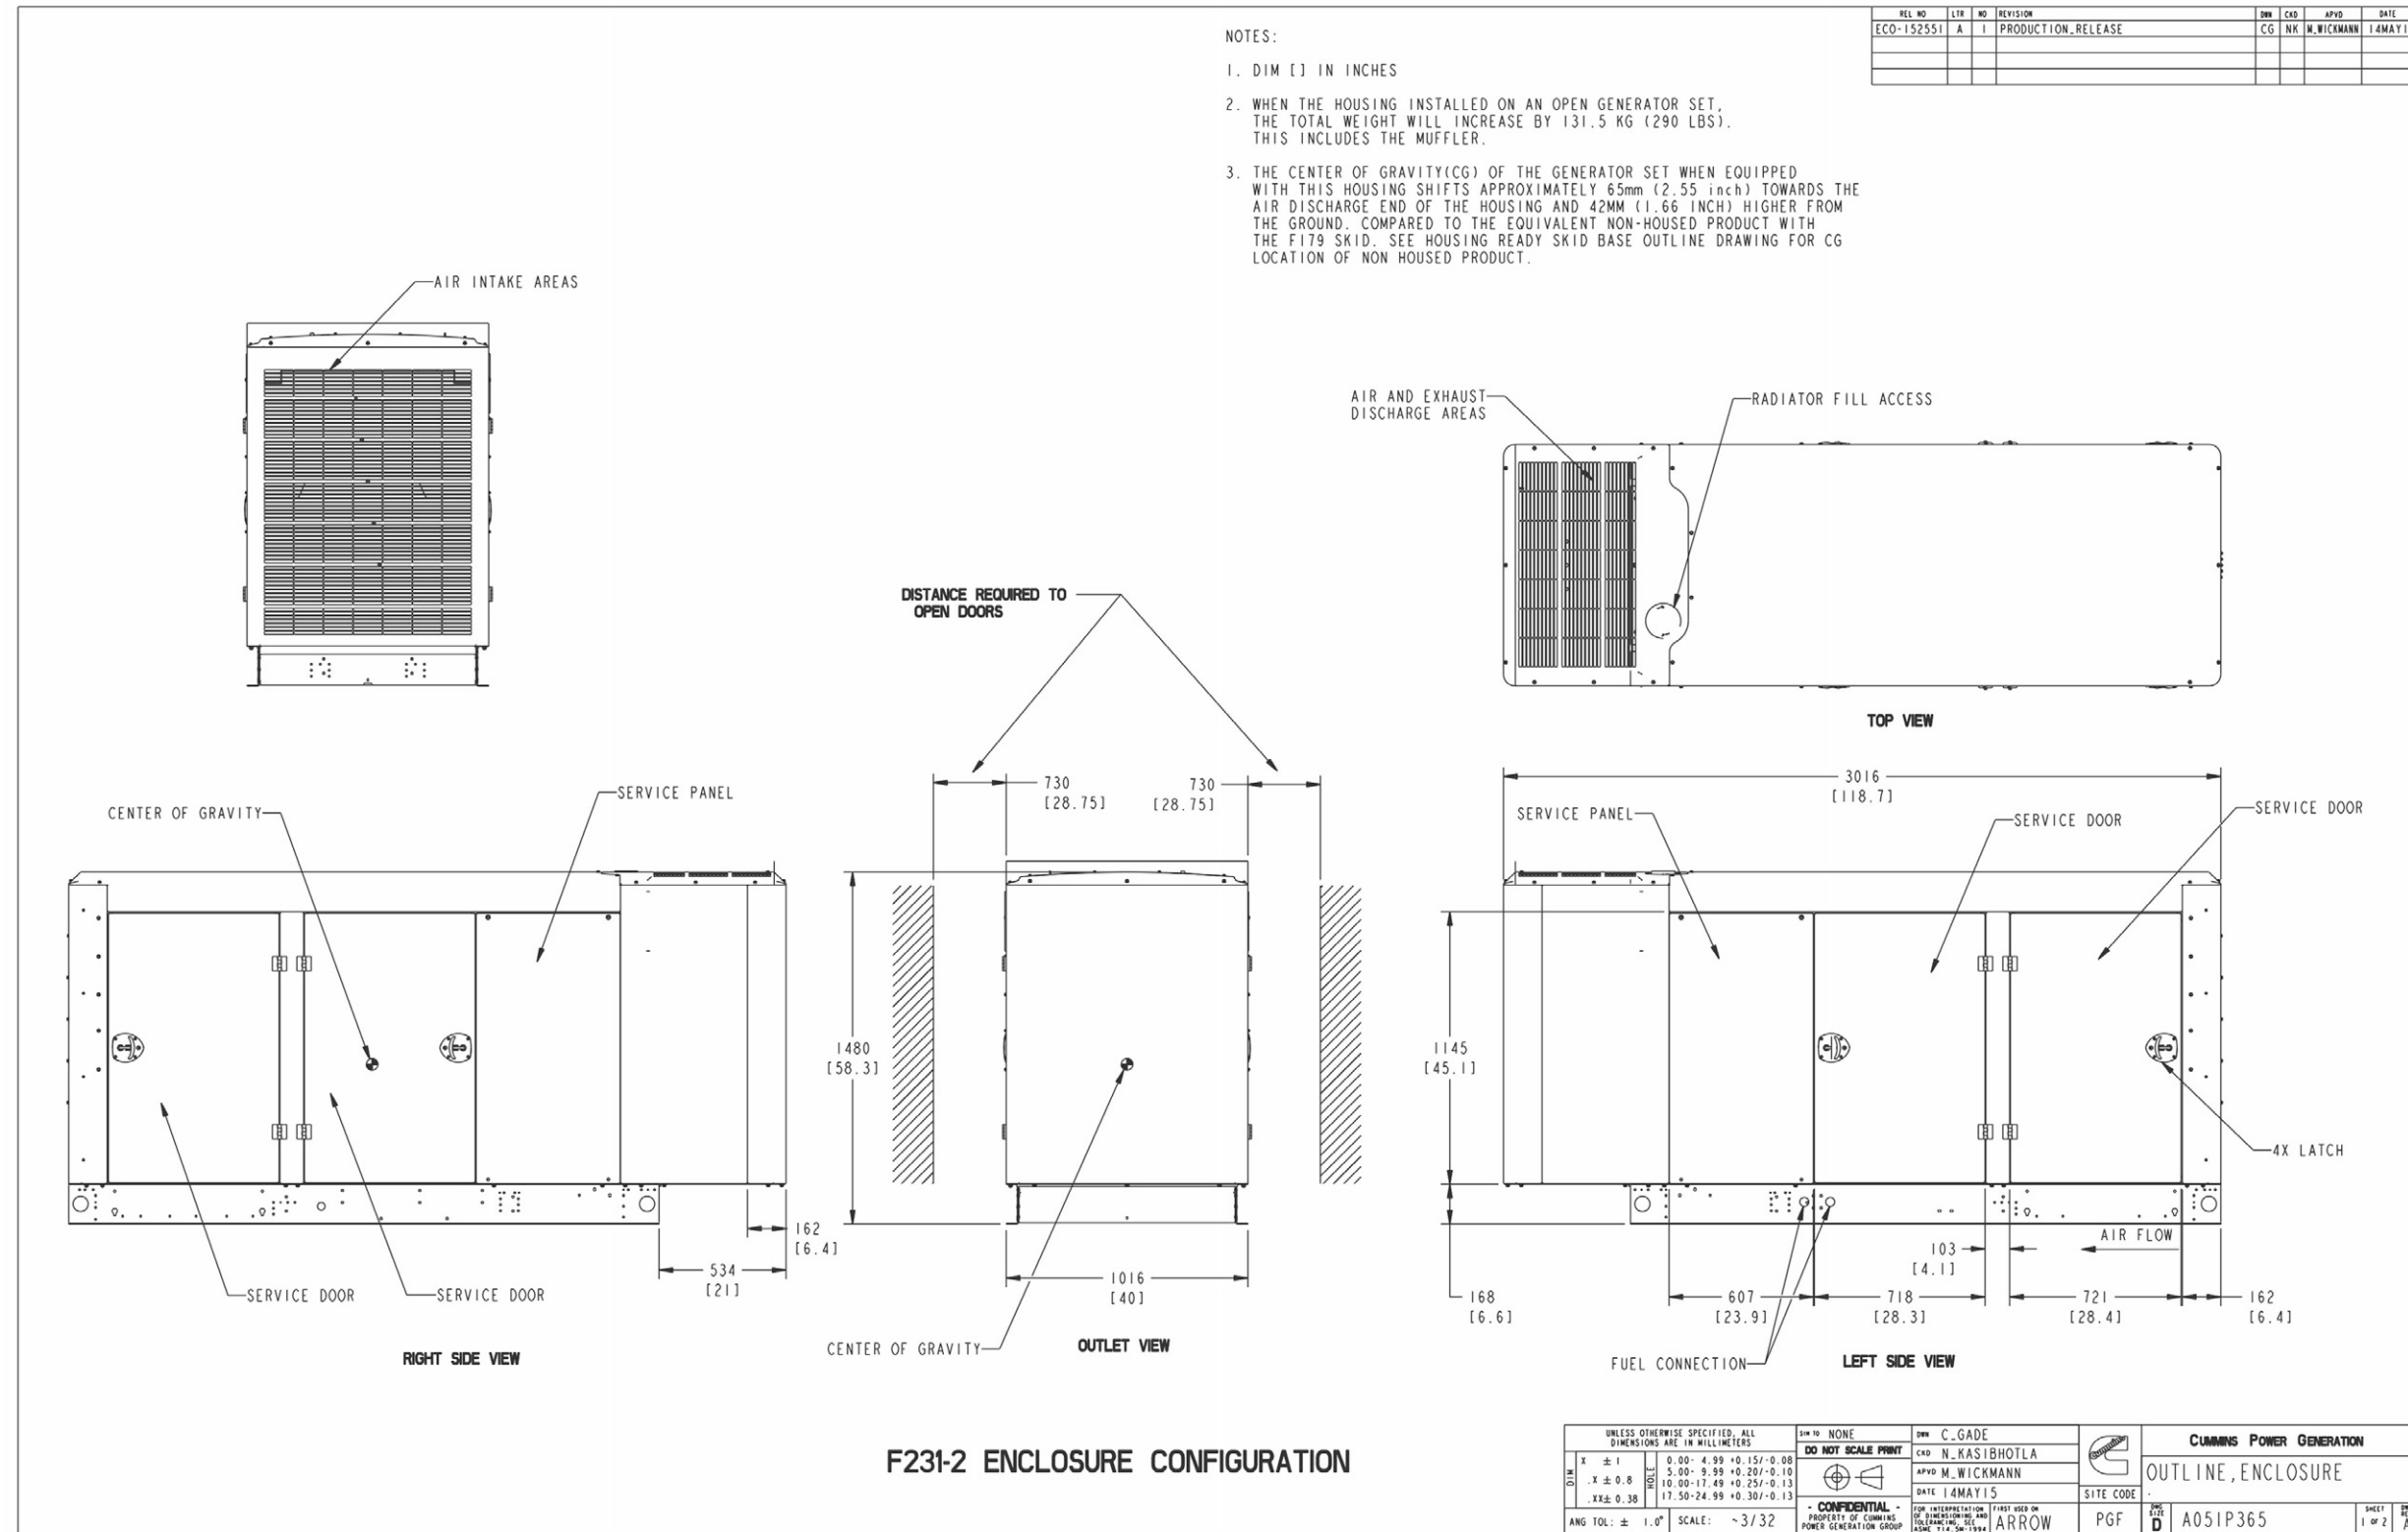

FIGURE 43. ENCLOSURE OUTLINE, SOUND ATTENTION LEVEL 1 AND LEVEL 2 (SHEET 1 OF 2)
- Figure 43. Enclosure Outline, Sound Attention Level 1 and Level 2 (Sheet 1 of 2) 115